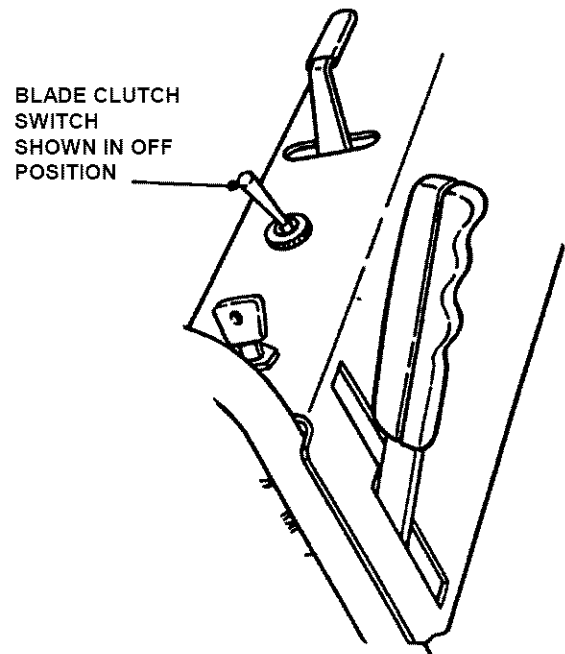

FIGURE 3.5
4. **PISTOL GRIP** - Pull Blade Clutch Switch backward to the **OFF** position. See Figure 3.5.
10. **PISTOL GRIP** - Push Blade Clutch Switch to **ON** position. See Figure 3.5.